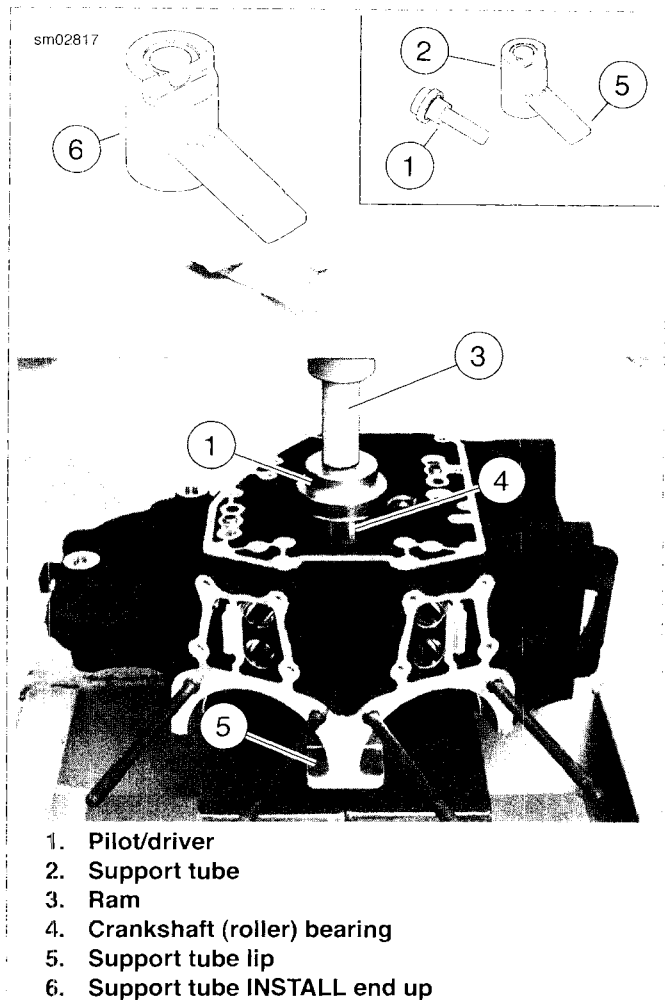

Figure 3-143. Right Crankshaft (Roller) Bearing Installation
1. See Figure 3-143. Obtain CRANKSHAFT (ROLLER) BEARING REMOVAL/INSTALL PILOT/DRIVER (Part No. HD-44065-1) and CRANKSHAFT (ROLLER) BEARING REMOVAL/INSTALL SUPPORT TUBE (Part No. HD-44065-4).
2. Obtain **new** crankshaft (roller) bearing (4). Spread a thin film of clean H-D 20W50 engine oil on O.D. of **new** bearing.
3. Place support tube (2) on hydraulic press table with the INSTALL end up. The sides of the support tube are stamped to ensure proper orientation.
4. With the outboard side of the right crankcase half facing upward, position crankshaft bearing bore over support tube. Lip on support tube (5) must contact edge of crankcase as shown. This allows the curved portion of the inboard crankcase to contact the top curved portion of the support tube (2).
6. Slide pilot/driver (1) through bearing into support tube.
7. Center pilot/driver under ram (3) of press. Apply pressure to pilot/driver until resistance is felt. Tool is now bottomed against support tube flange and has properly positioned the crankshaft (roller) bearing in crankcase bearing bore.